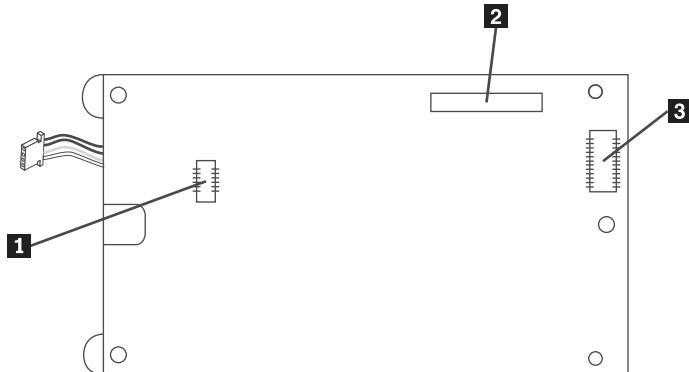
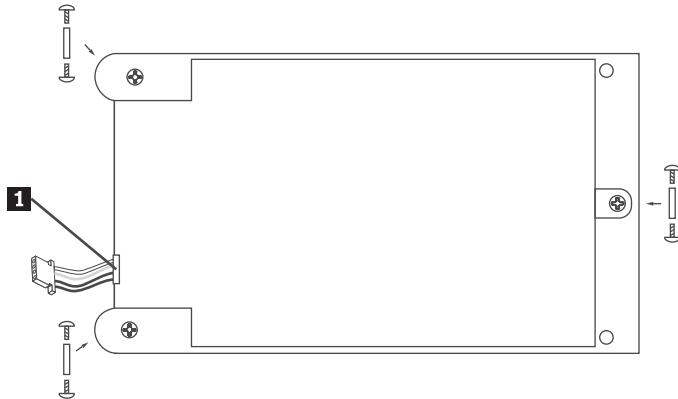
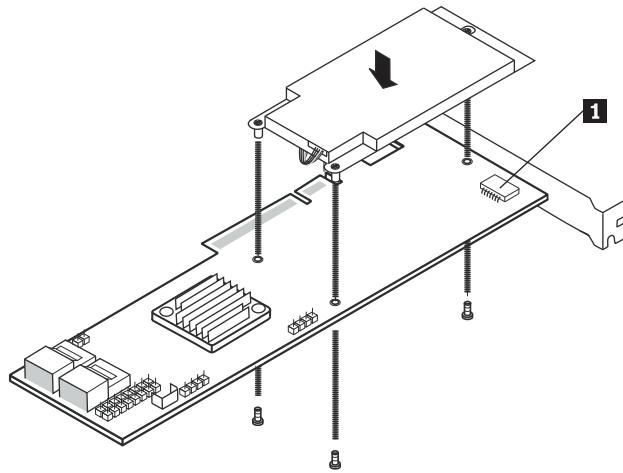

Figure 28. Bottom view
Figure 29. Top view
Figure 30. Installing the battery card assembly
- Insert the battery pack harness connector (as shown in Figure 29) into the 5-pin J3 battery pack harness connector (as shown in Figure 28) on the backside of the battery card assembly.
- Hold the battery card assembly with the battery side up and the J2 board-to-board connector (as shown in Figure 28) lining up with the J7 BBU connector on the RAID controller, as shown in Figure 30 on page 68.